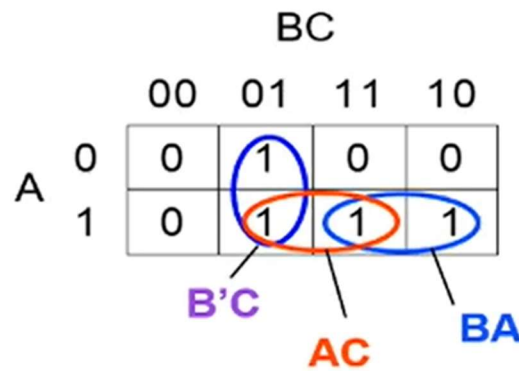

Figure 5. K-map of the circuit with additional AC term
Now the logic expression from the K-map is:  $Q = AB + B'C + AC$ , and if we further change it to adapt the NAND-only circuit with de Morgan's Law, we will have:  $Z = (((AB)'(B'C)'))' (AC)'$ . The advantage to do so is to overlap more logic gates in the circuit to reduce the period of static hazard. The newly optimized logic diagram and circuit layout are in Figure 5 and 6: